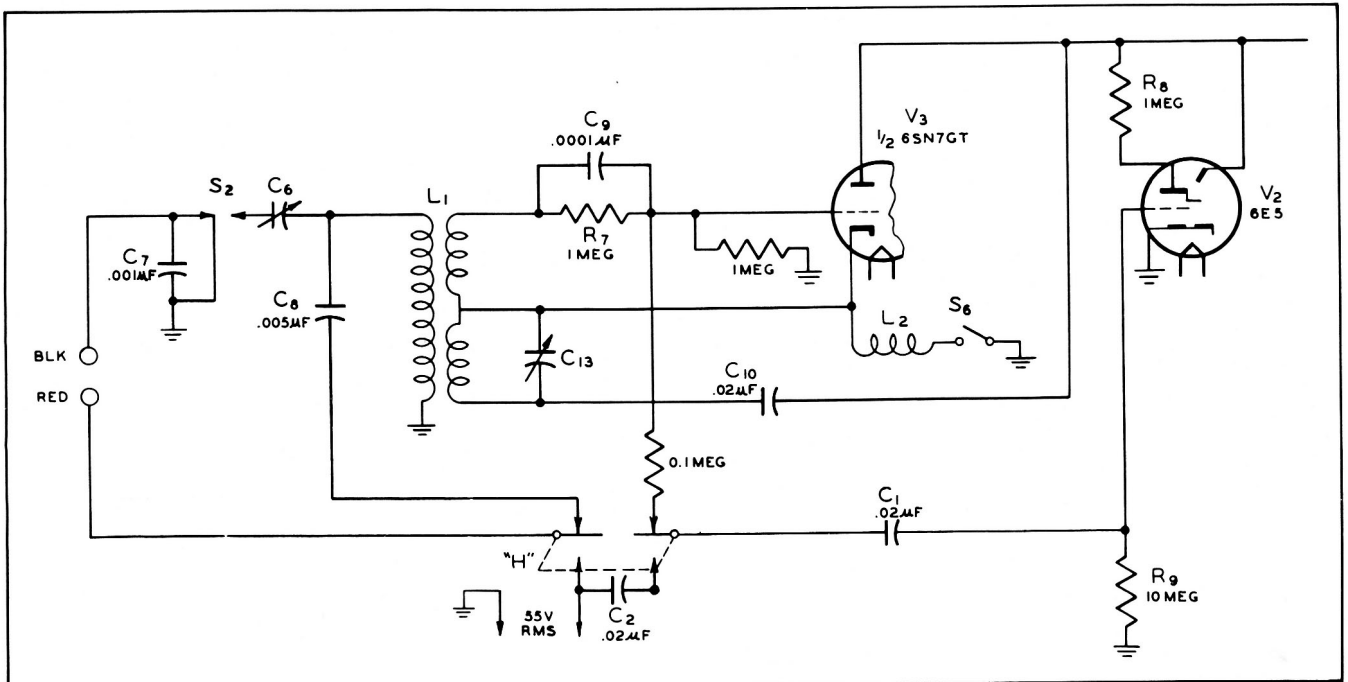

Figure 1. Quick Check Circuit, Simplified Schematic Diagram
a. The Quick Check portion of the CRA-1 Capacitor-Resistor Analyzer is shown schematically in figure 1. For simplicity, the power supply and switching facilities have been omitted. The circuit consists of a balanced RF oscillator, a source of AC voltage and an electron-ray indicator tube. The circuit is so arranged that it will not oscillate with the special Quick Check test leads plugged into the